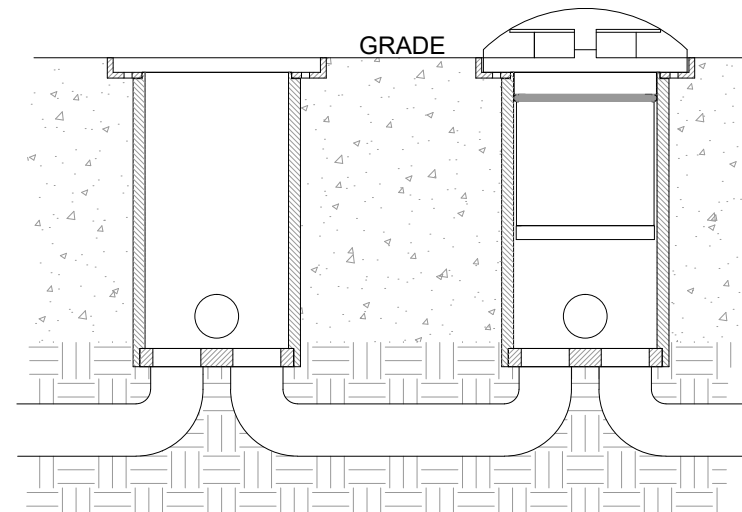

Figure 4
2. Press included foam debris guard into the Concrete Ring and pour concrete around Housing. **The top edge of the brass Concrete Ring must be flush with the finished surface (Figure 4).**